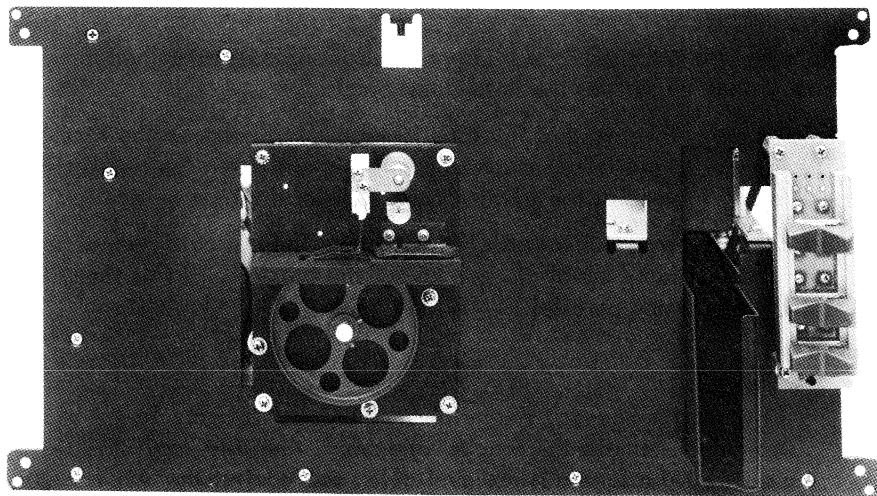

Figure 5-2a Front View, Cover Removed
5.3.3 Tape Depressor (Figure 5-2a)
5.3.4 Tape Hold-Down Bracket (Figure 5-2a)
5.3.6 Feed Wheel Position (Figure 5-2a)